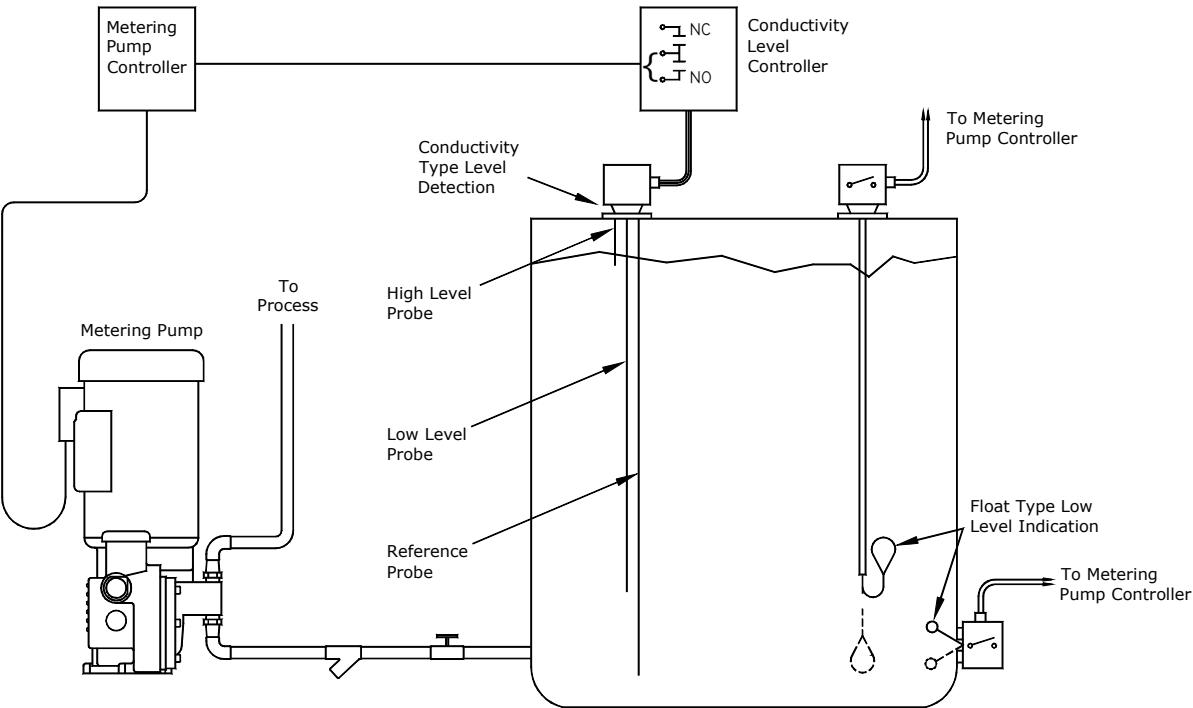

Figure 4. Typical Tank Level Control Arrangements
- 6. Provision should be made in the system to avoid the possibility of running the pump dry. Typically this is accomplished by wiring a low-level shut-off switch mounted in the supply tank to the pump motor starter as shown in Figure 4.